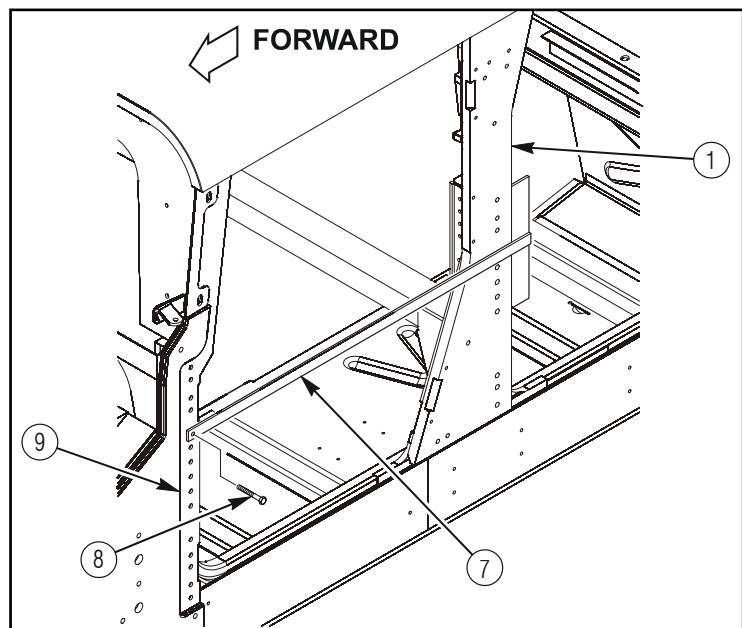
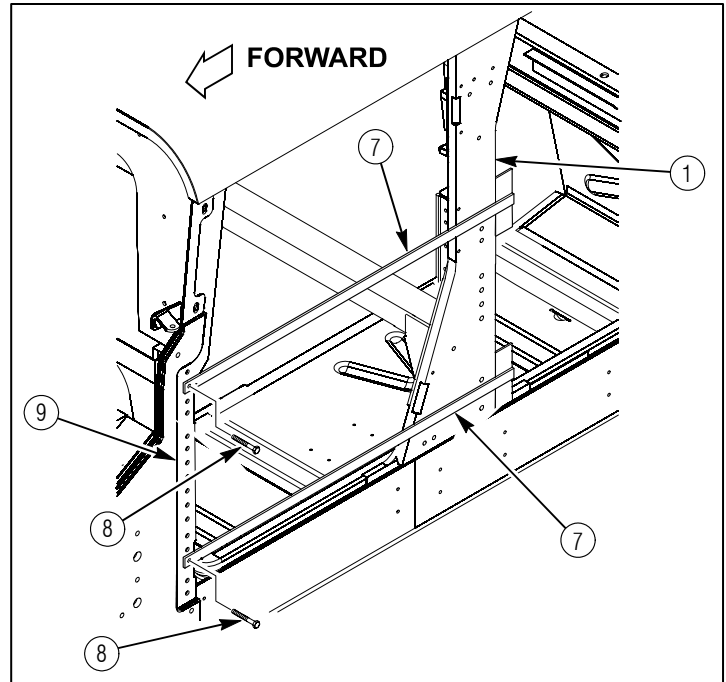

Figure 12b.
Figure 12c.
10. Install one M00650BAS001-01M1 B-pillar spacer gage (7) on A-pillar (9) with existing front door mounting capscrow (8) (.375-16 X 3.50) as shown in figure 12b or two M00631BAS001-01M1 B-pillar spacer gages (7) on A-pillar (9) with two existing front door mounting capscrows (8) (.375-16 X 3.50) as shown in figure 12c. Ensure back edge of left B-pillar plate (1) is tight against